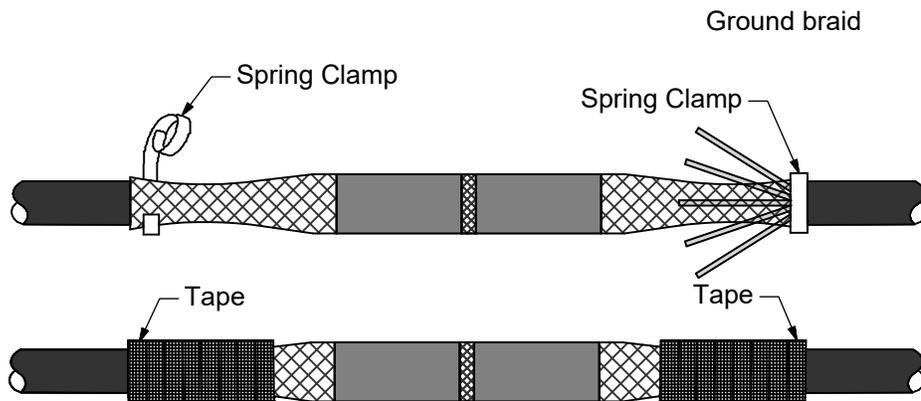

Figure 8
- E. Secure the spring clamp with three wraps of vinyl tape (Stk. # 2553055) wrapped in the same direction as the spring clamp. Continue taping over the ends of the mesh to cover all sharp points. Follow the above steps to complete the other side. See Figure 8.